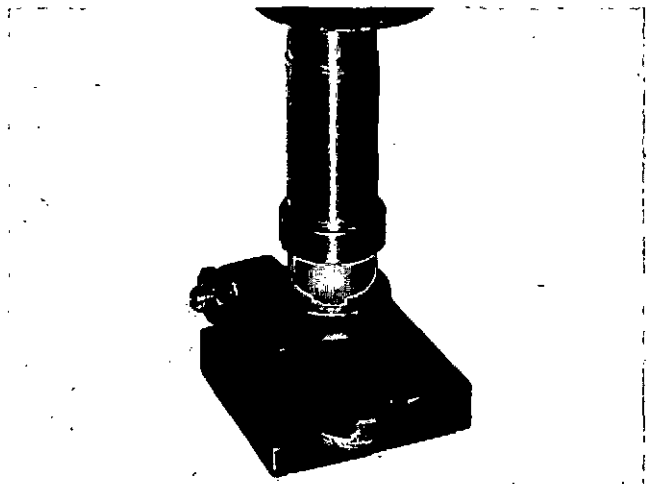

Fig. 3-6 (N20306). Install The Bushing Into The Rocker Lever.
3. Install the new bushing with the mandrel and an arbor press. Fig. 3-6.